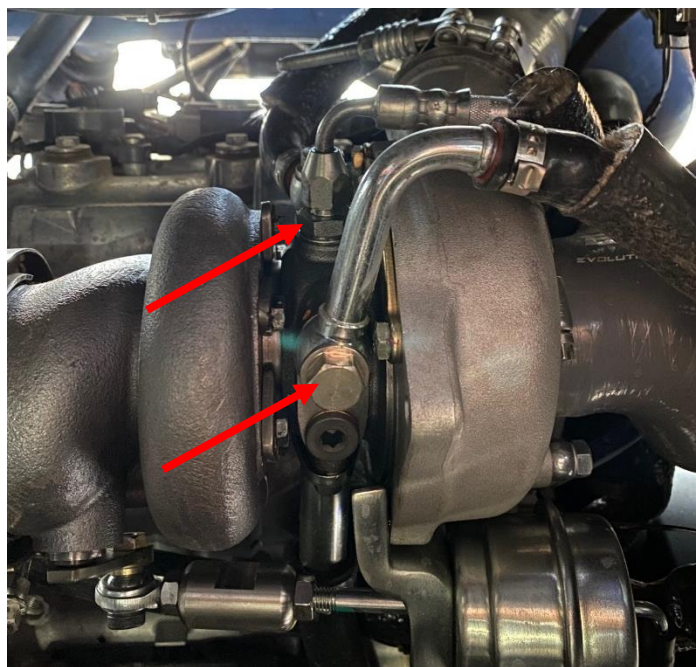

Figure 4
Step 9: Connect coolant lines to the turbo as shown in Figure 4.